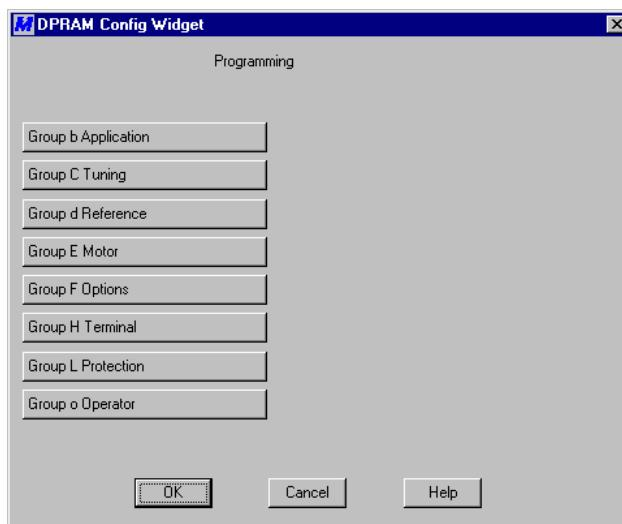

Figure 4. DPRAM Programming Menu
1. You may choose one of the following six configuration groups: For this example, click *****Main Menu***, Programming**. The **Programming** dialog box appears. The box presents eight groups from which to choose. See "Figure 4. DPRAM Programming ."